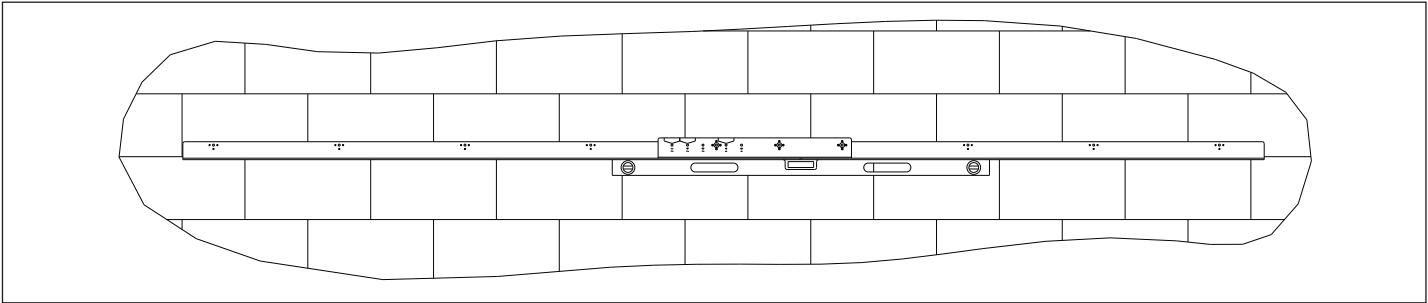

Figure 2: Install Additional Horizontal Wall Angles Horizontally
3. Install additional horizontal wall angles horizontally while referring to **Figure 2**: